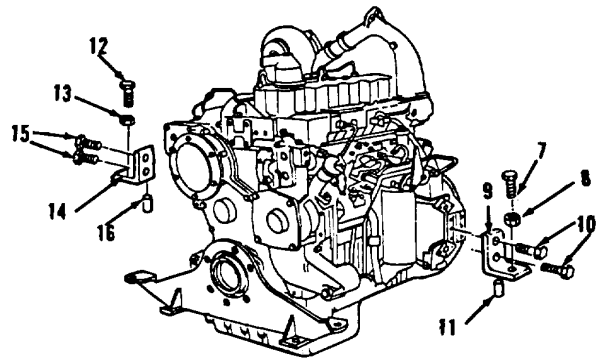

Figure 3-12.
3. Install dowel (16) to support (14, Figure 3-12).
4. Install support(14) and two bolts (15) to bottom, rear of engine.
5. Install bolt (12) and nut (13) to support (14). Bolt (12) must be installed to extend 0.118 inch below lower edge of support (14).
6. Install dowel (11) to support (9).